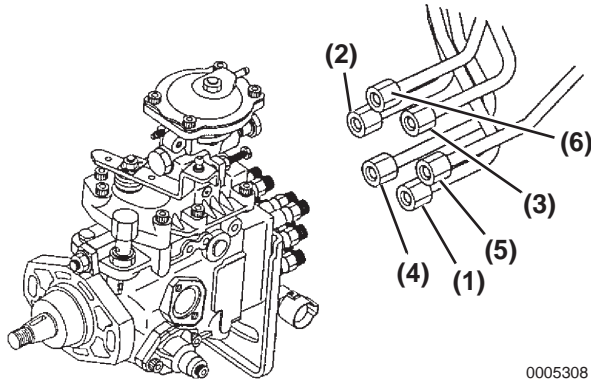

Figure 6-45
6. Tighten the union nut onto the fuel injection pump (**Figure 6-45**). Torque to: 250 kgf-cm, 24.52 N-m (18 lb-ft).